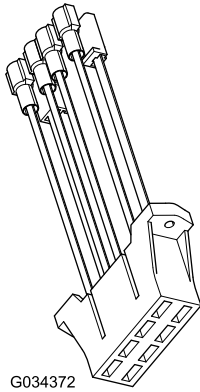

Figure 21
2. If a circuit is not available in the fuse block of the machine, install the auxiliary-fuse block (Figure 21) onto the fuse block of the machine.